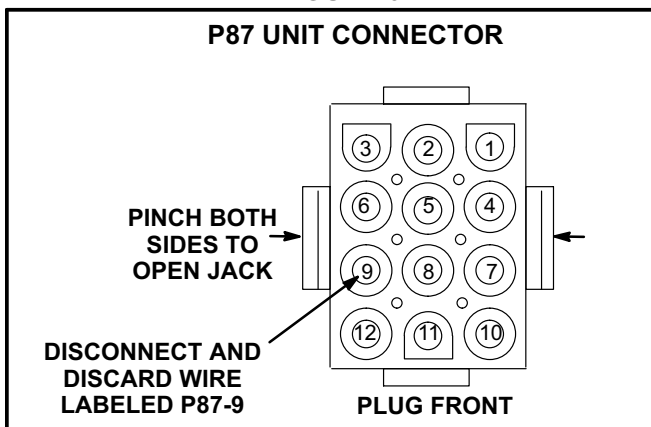

FIGURE 7
- 6- Disconnect unit plug P87 from J87 jack. Pinch both sides to open plug P87. Remove and discard the wire marked P87-9 from P87 plug. See figure 7.